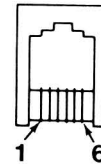

Figure 2-9. Line and Telephone Connectors
single-line telephone line (not handset) cord to the connector labeled LINE. Connect the other end to a telephone line jack. You can connect either end first. Refer to Figure 2-9 for the line connector.
**Telephone Connector** — The TEL connector supplies the necessary signals for a standard, single-line telephone through the computer from the telephone company line. Connect the telephone to the connector labeled TEL. Refer to Figure 2-9 for the telephone connector.